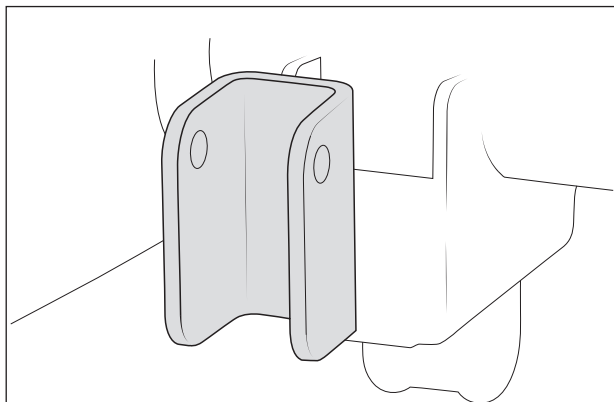

Figure 5
- b. Weld AEV brackets in the same location and orientation as the factory brackets (Fig. 5).